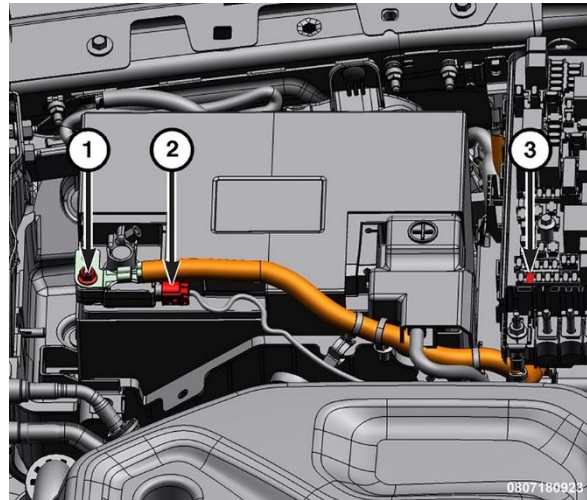

**Figure 2 – 12-Volt Battery**
7. Disconnect the IBS wire harness connector (2). Remove and isolate the battery negative cable (1) using Covers, HEV Battery Terminal 2035100082 (Figure 2).
8. Remove the F09 (5 amp) fuse (3) from the Power Distribution Center (PDC) (Figure 2).